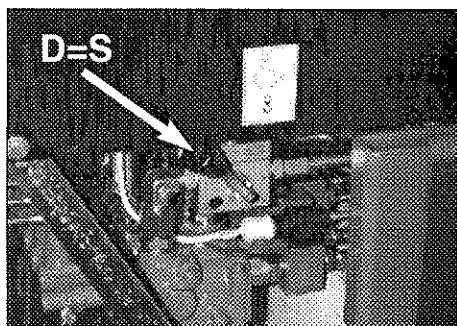

fig. 19
- Position lever **D** of oil diverter crane-outriggers (S - S) on **S**. fig. 19